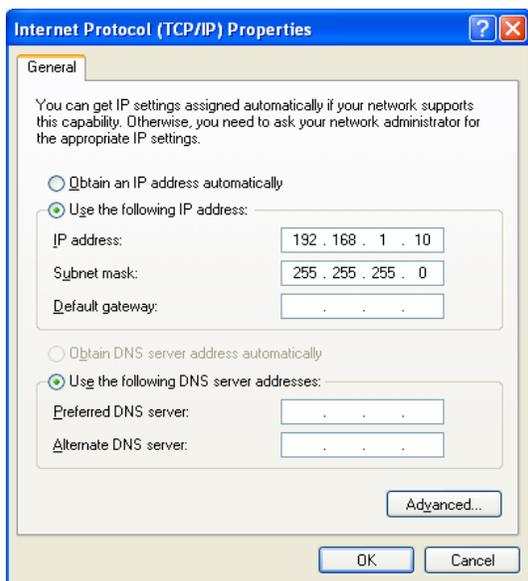

FIG. 16
5. See FIG. 16. Select “Use the following IP address.” The default Pump IP address is 192.168.1.100. Enter a number which differs from the default address in only the last set of numbers, for example: 192.168.1.10. This enables the computer to connect to the VFD. Set Subnet mask to 255.255.255.0.